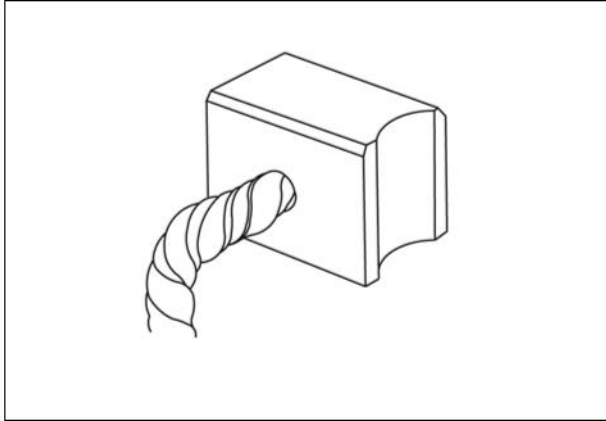

Figure 63
5. Attach either test lead to starter housing (Figure 63).